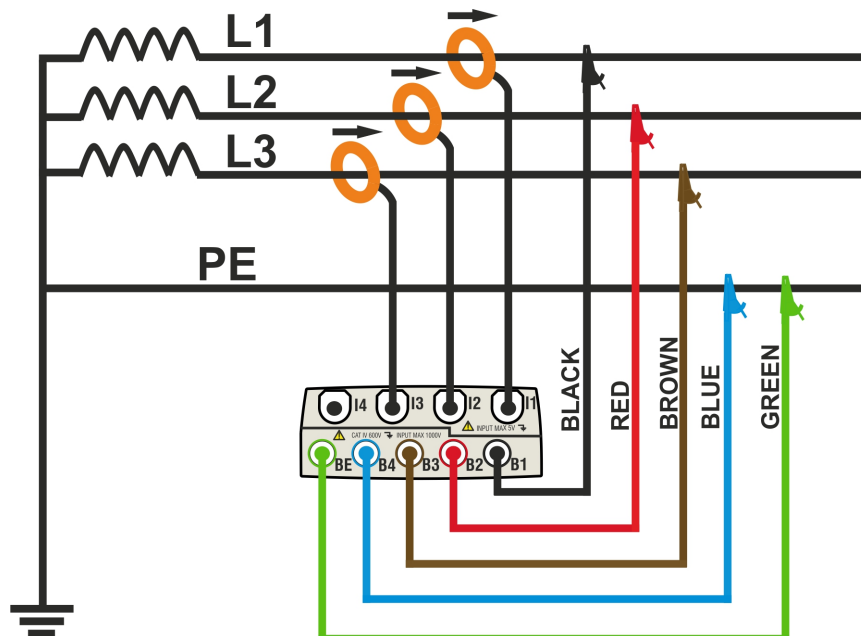

Fig. 134: Meter connection in a three phase 3WIRE system
2. Connect voltage test leads on Phases L1, L2, L3, and Ground cables respecting the colours as shown in Fig. 134. **Verify the result "123" at display relative to a correct phase sequence indication** (see § 5.2.1) and perform the corrections if necessary.
3. Connect the transducer current clamps on Phase L1, L2, L3 cables as shown in Fig. 134 respecting the clamp's arrow direction indicating the current standard sequence from generator to load. **On Real Time Values' section screens always verify the positive value of Active Power and the power factor relative to load which should be normally inductive** before starting a recording. Reverse the clamp by 180 degrees on cables in case of negative readings.